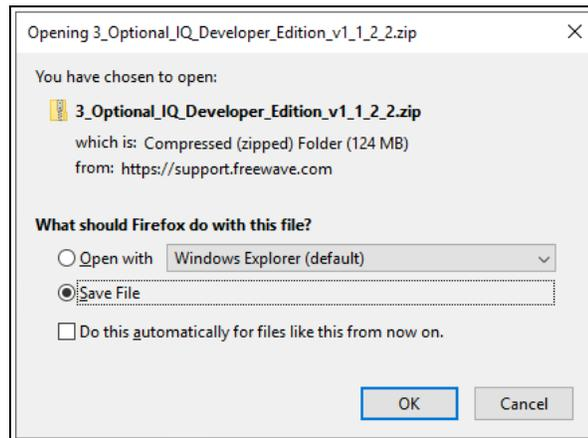

Figure 75: Opening 3_Optional_IQ_Developer_Edition_v1_1_2_2.zip dialog box
3. Select and click the **3_Optional_IQ_Developer_Edition_v1_1_2_2.zip** attachment. The **Opening** dialog box opens. Figure 75